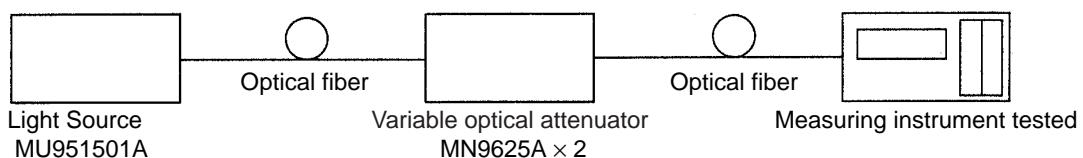

Fig. 5-3
1. Set up a measurement system like that shown in Fig. 5-3.